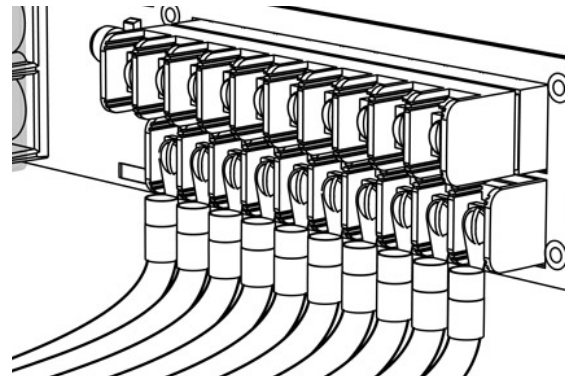
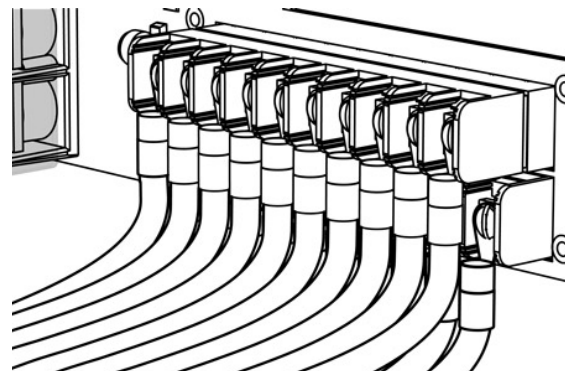

Figure 14. RTN output wires
Figure 15. HOT output wires
- Step 1.** Connect the wires to the equipment loads to be fed by the panel fused outputs to these terminal block connections. The RTN (+) wire connects to the bottom terminal (see Figure 14) and the HOT (-) wire connects to the top terminal (see Figure 15) for each fuse position.